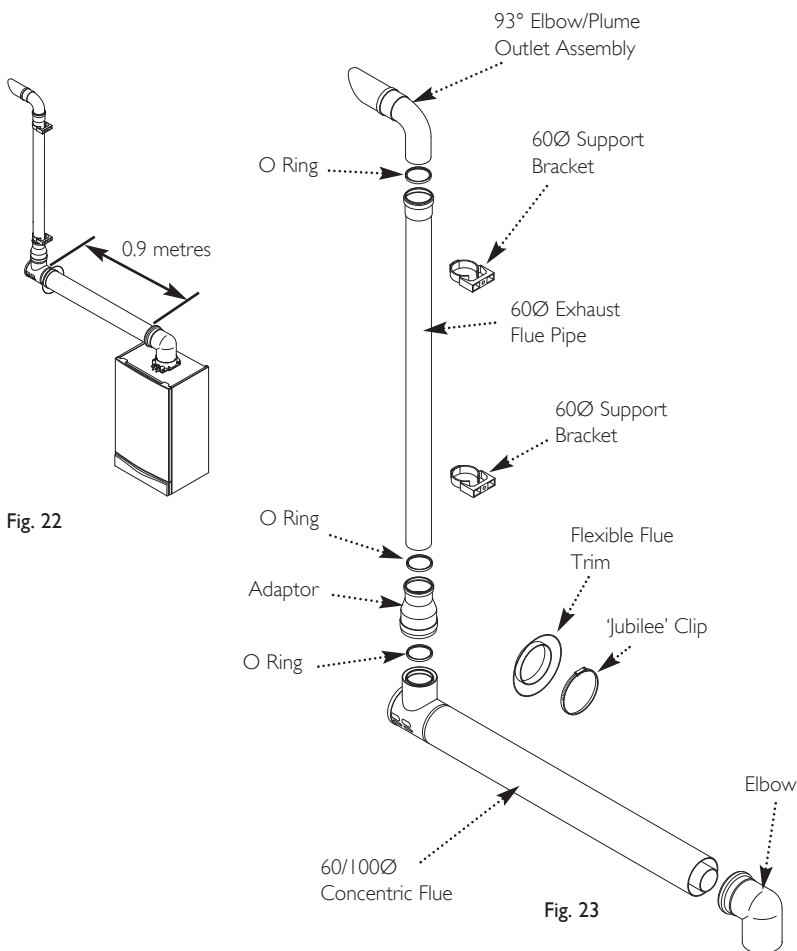

Fig. 23
9.1 Plume Displacement Kit (Fig. 23)